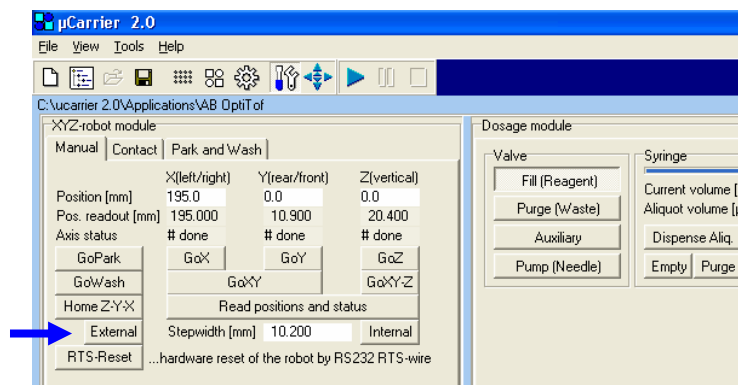

FIGURE C-12 The Robot Section
- b) Select **Manual Device Control** from the **Tools** menu or choose the *Manual Device Control* button to open the 'XYZ Robot module' and 'Dosage module' window (FIGURE C-12).